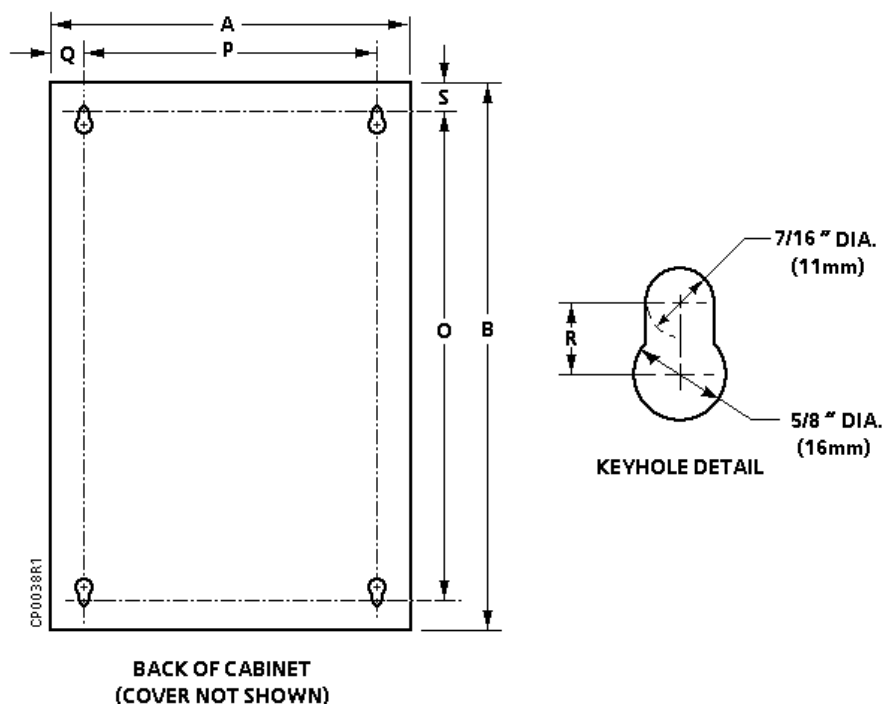

Figure 5. Rear View of Cabinet (See Table 6).
1. There are four keyhole mounting holes in the back surface of the cabinet. Their sizes and locations are shown in Figure 5. Use wall anchors that are suitable to support the weight of the cabinet and its contents.
1. Mount the cabinet in a wall at least 6 inches (15.2 cm) deep. There are four keyhole mounting holes in the back surface of the cabinet. Their sizes and locations are shown in Figure 5. Use wall anchors that are suitable to support the weight of the cabinet and its contents.